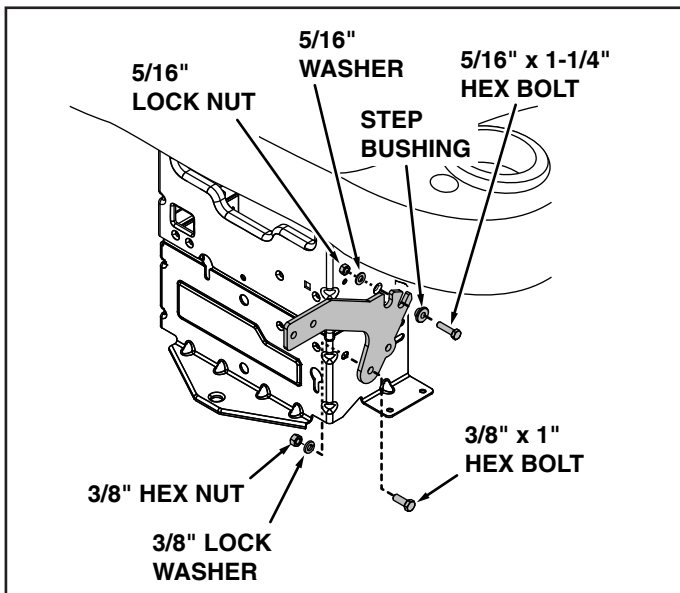

FIGURE 2
3. Assemble bottom of two weight bracket arms (2) to sides of drawbar using two 3/8-16 x 1" hex bolts (3), 3/8" lock washers (9) and 3/8"-16 hex nuts (11). See figure 2.
4. Assemble top of two weight bracket arms (2) to sides of drawbar using front notches in arms. Use two 5/16-18 x 1-1/4" hex bolts (4), step bushings (13), 5/16" washers (4) and 5/16" lock nuts (12). See figure 2.